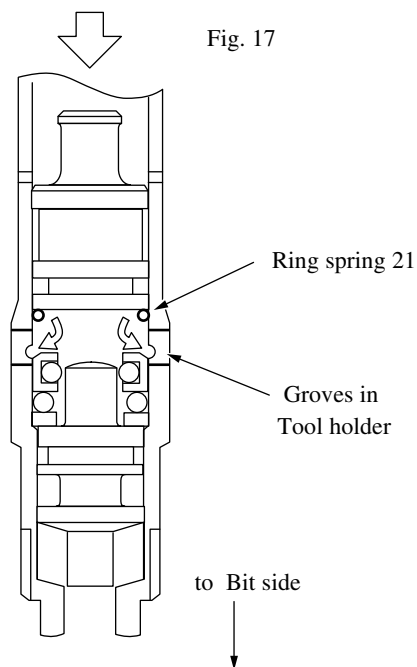

Fig. 18
4) Insert Ring spring21 in Tool holder by ? driver, etc., use Striker as a jig in the same way as 2), and then place Ring spring 21 into grooves of Tool holder. (See Fig. 18)